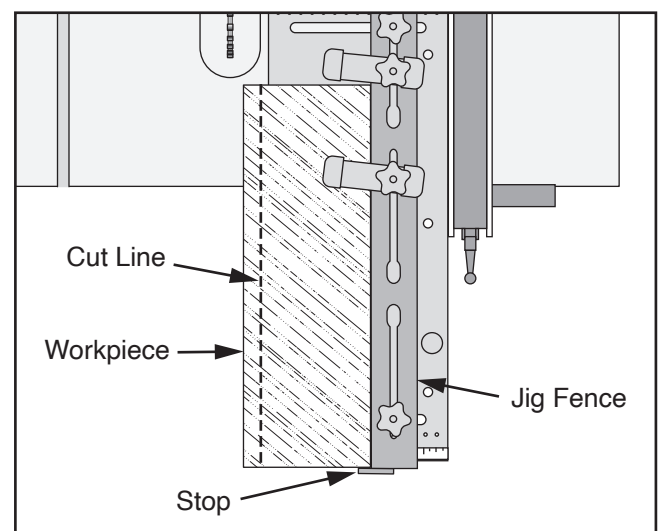

Figure 24. Workpiece against jig fence and stop.
8. Place workpiece on jig against jig fence and stop shown in **Figure 24**.
IMPORTANT: Cut line of workpiece must extend past edge of jig (see **Figure 24**). If cut line falls inside jig border, readjust jig fence so cut line extends past the edge.